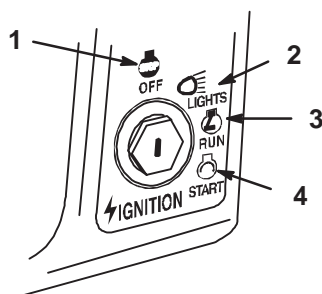

Figure 5
6. Turn the ignition key and hold it in the start position (Fig. 5). When the engine starts, release the key.
- Turn the ignition key to off (Fig. 5).